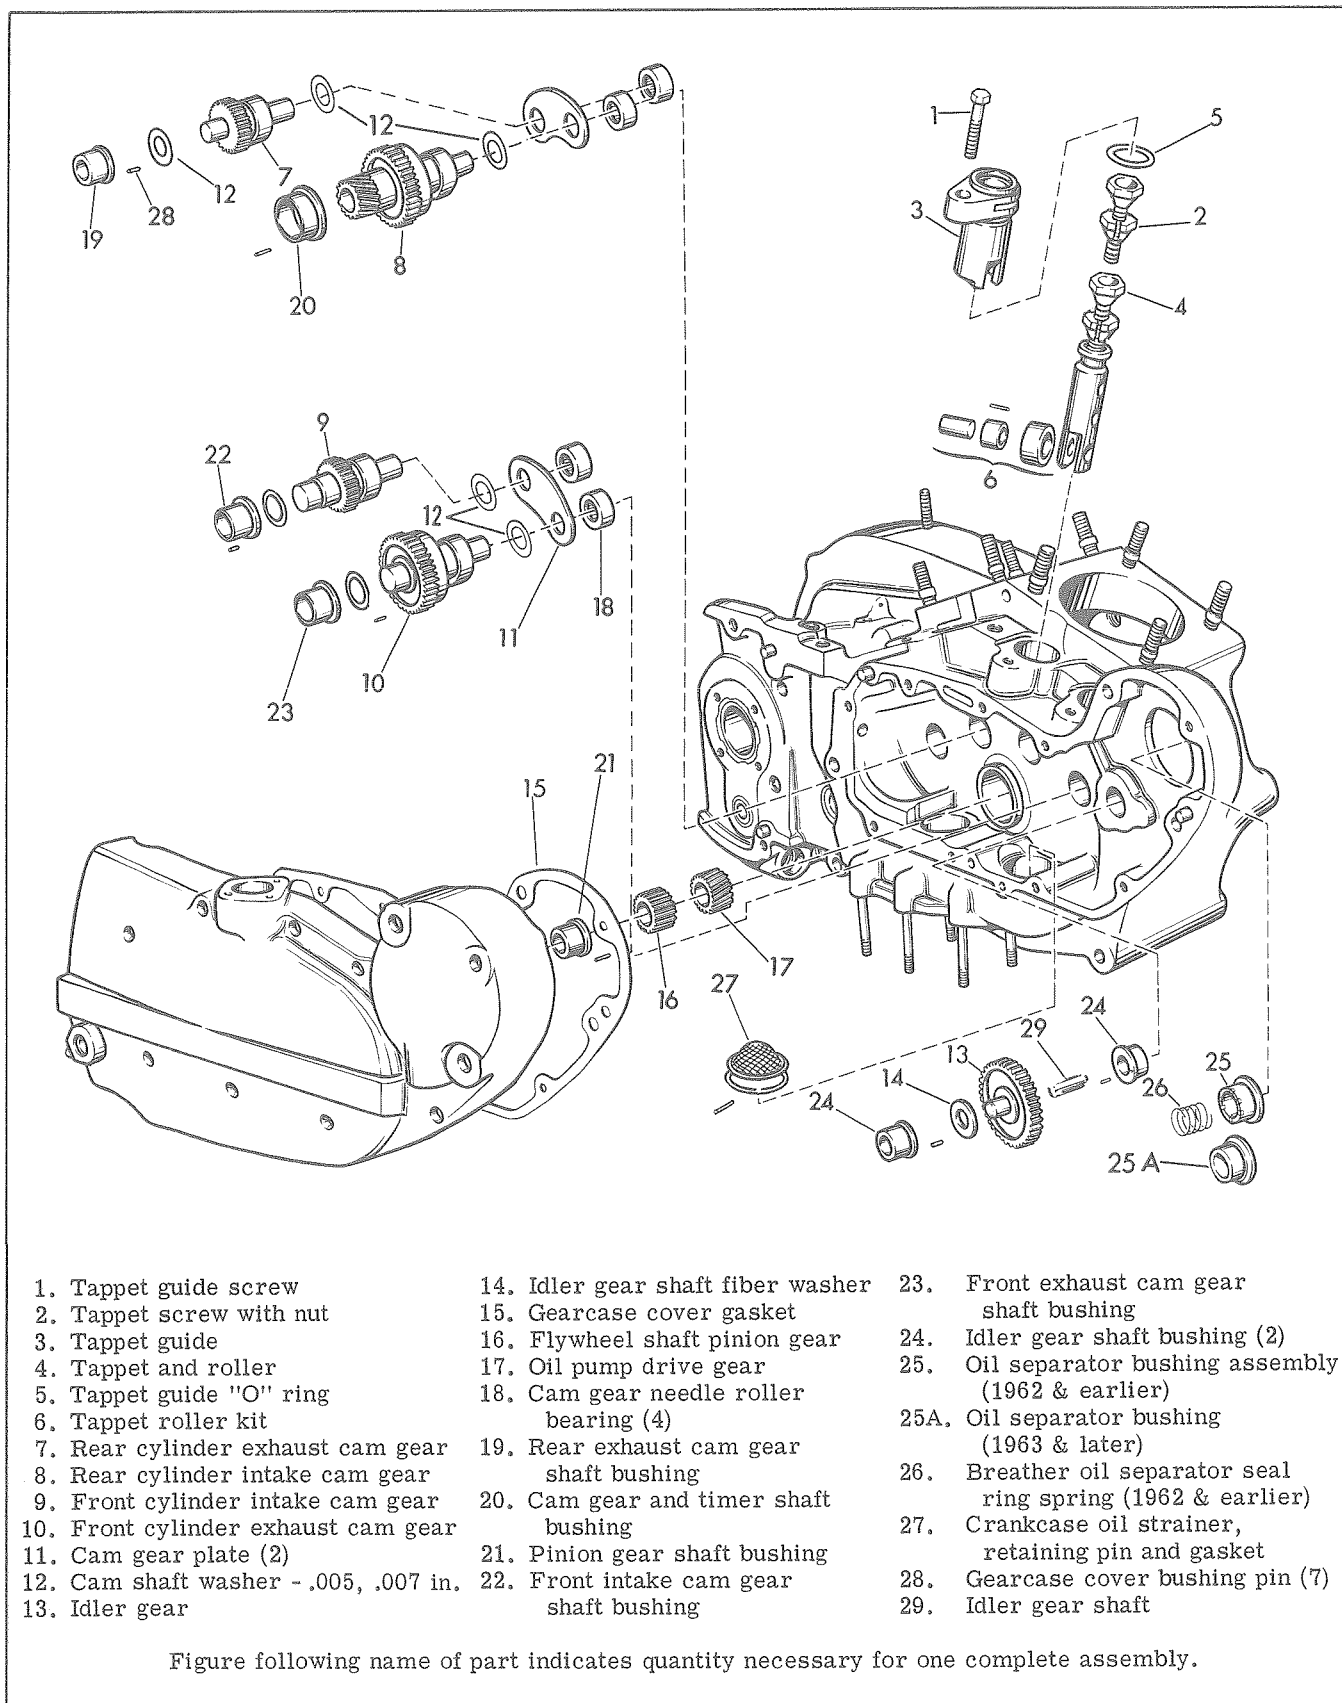

Figure 3D-11. Gearcase and Tappet - Exploded View
Remove tappet guide screw (1) and tappet adjusting screw (2) and slide Tappet Guide Puller, Part No. 95724-57, in mating grooves of tappet guide (3). Before turning tappet guide (3) from crankcase, be sure cam gear is installed in case for tappet to butt against when using puller (see Fig. 3D-12). Mark valve tappets in some manner to identify them as to location.
Inspect tappet guide rubber "O" ring (5, Fig. 3D-11) for wear or damage.
ASSEMBLY (Fig. 3D-11)